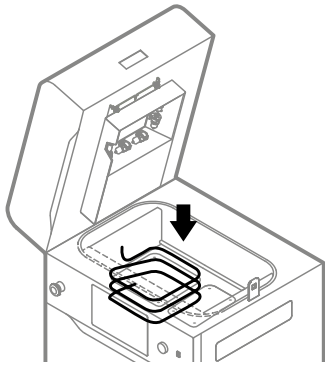

Fig. 12.38 Put on new fibreglass sealing.
20. Put on a new fibreglass rope by wrapping it three times around the Feed Bed. Remember not to stretch the fibreglass rope (fig. 12.38).